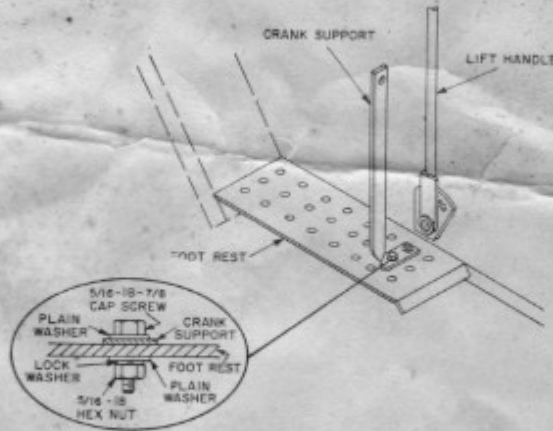

Figure 2: Crank Support Mounting
3. Attach crank support to right hand foot rest with its mounting base extending to the left. Secure in the holes as shown in Figure 2 with plain washers just below the head of the screw and another against the underside of the foot rest, then add lockwashers and nuts.